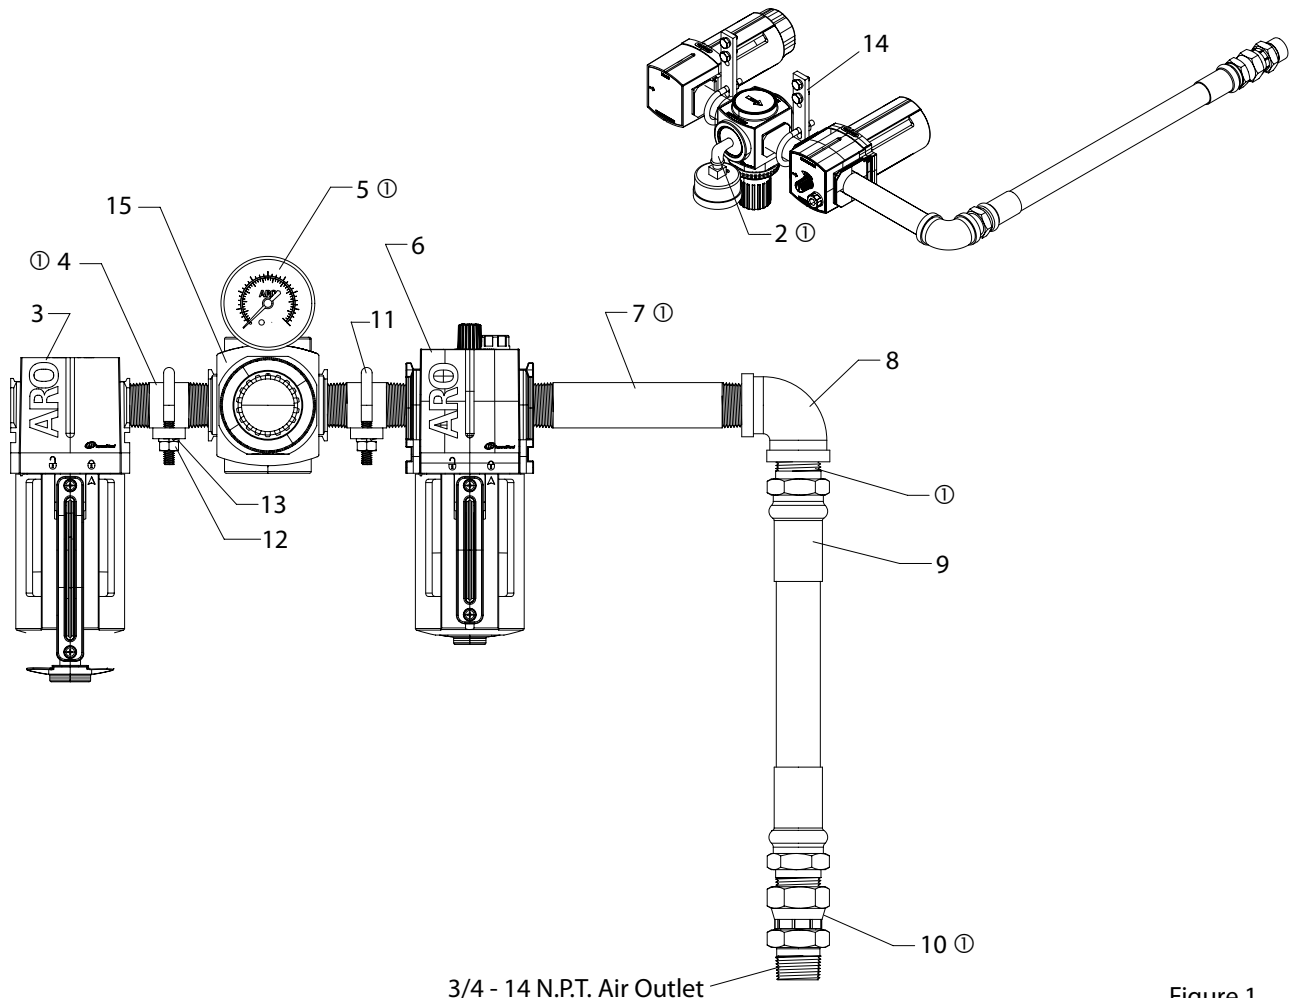
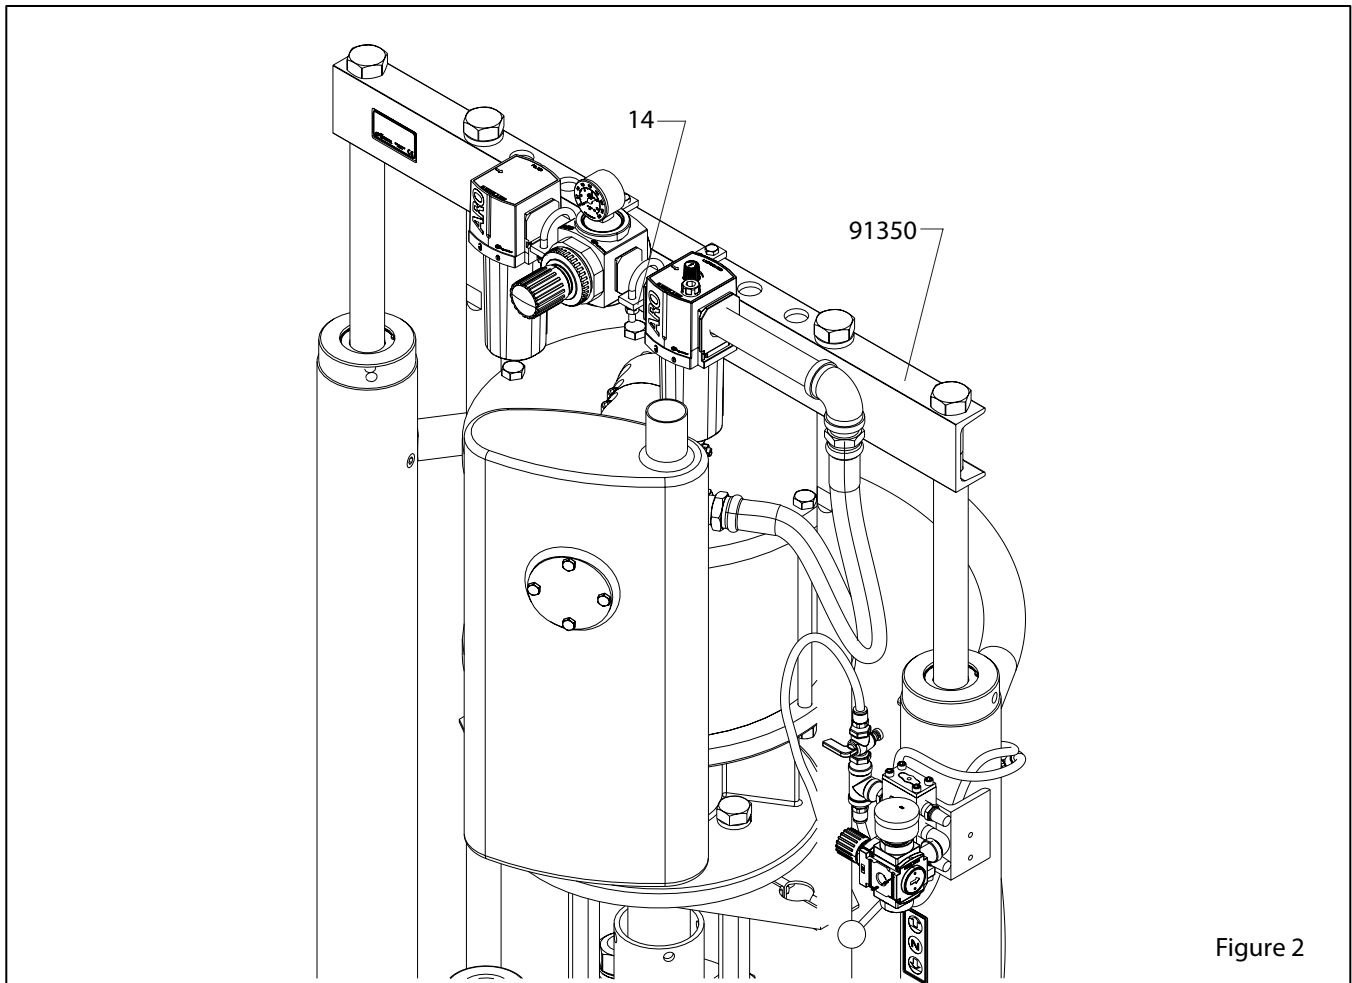

Figure 1
Figure 2
1. Position the two (14) mounting plates on the two post lift mounting arm (see figures 2 and 3).
2. Using four (16) cap screws and four (13) lock washers, fasten the mounting plates to the four holes located on the top of the mounting arm.
3. Place the air manifold assembly on the mounting plates and secure using two (11) "U" bolts, four (13) lock washers and four (12) nuts (see figures 1 and 2).
- NOTE: The regulator is rotated upward 90° for easier viewing of (5) gauge.
4. Connect the (9) hose and (10) swivel to the pump air motor inlet.
5. Connect 1/2" i.d. air line hose to (3) filter.